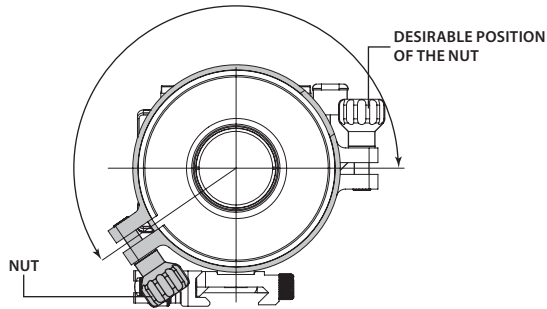

FIGURE 3-11. ESTIMATION OF THE SMS TURNING ANGLE
1. Decide on desirable position of the nut and estimate the angle through which the adapter should be turned CW (see Figure 3-11).